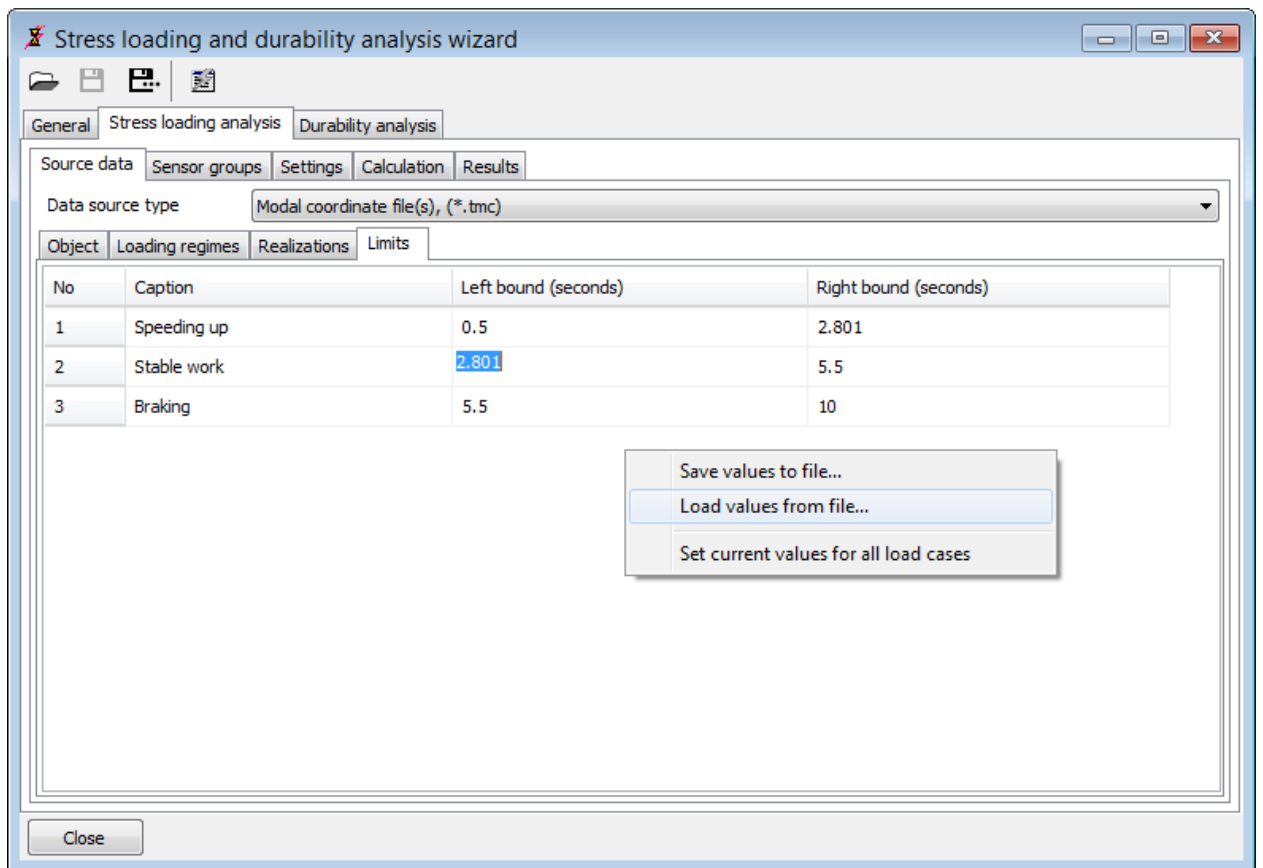

Figure 2.10. Time intervals
1. According to Figure 2.9 let us define time intervals for load cases as it is shown in Figure 2.10.
2. You can input values manually or load from the *TimeIntervals.int* file, Figure 2.10.